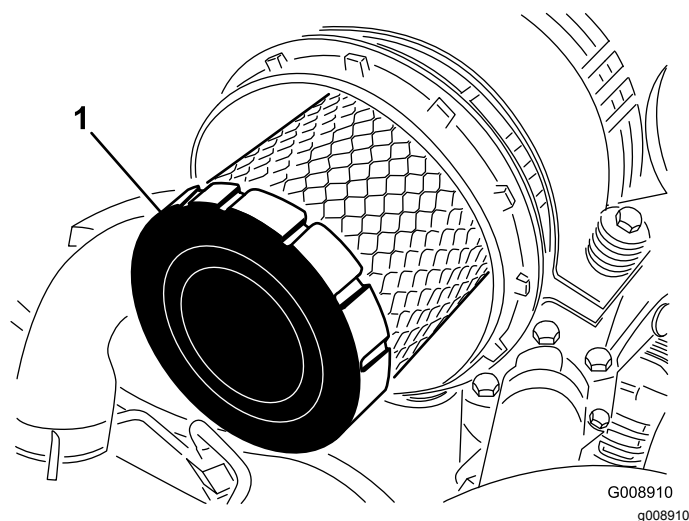

Figure 89
4. Remove the primary filter (Figure 89).